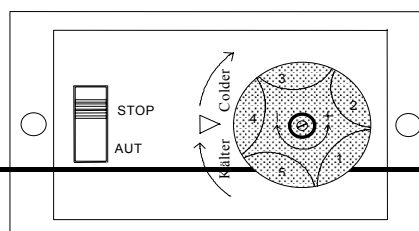

Figure 36
- The refrigerating machine is fitted with its own thermostat and defrost clock (figure 36).